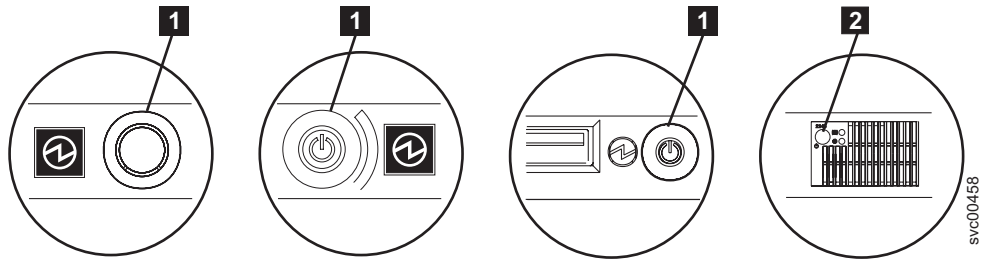

Figure 78. SAN Volume Controller models 2145-8A4, 2145-8G4, and 2145-8F4 or 2145-8F2 power control button and the SAN Volume Controller 2145-4F2 power switch
3. Press and release the SAN Volume Controller models 2145-8A4, 2145-8G4, 2145-8F4, and 2145-8F2 power control button **1** or the SAN Volume Controller 2145-4F2 power switch **2** (shown in Figure 78 on page 97). Wait one minute for the SAN Volume Controller to turn off. The other SAN Volume Controller nodes in the cluster might display an error code indicating that a node is missing from the cluster. Ignore this error code; it is automatically resolved when the repair is complete.